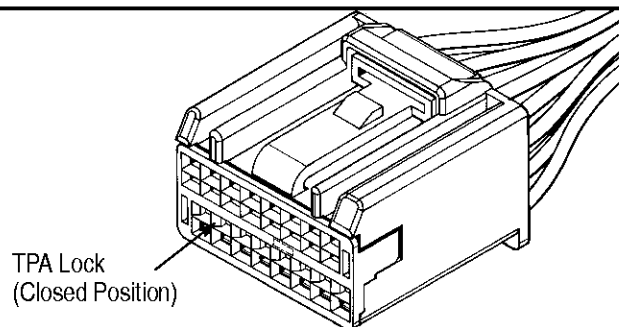

Figure 3
3. After all required contacts have been inserted, the TPA lock must be closed (see Figure 3). To close the TPA lock, push evenly across the TPA lock with a flat surface to secure all contacts in position. The TPA lock should be flush with plug housing.